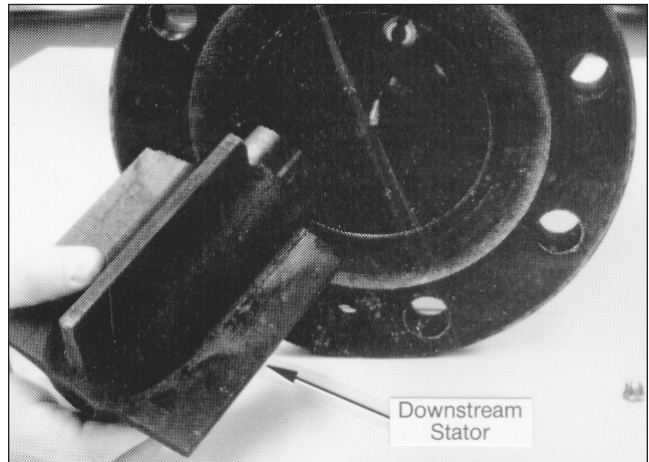

Figure 9
8. Remove downstream stator, Figure 9. In a unidirectional turbine meter, the stator is located by a Woodruff key. Care should be taken that the Woodruff key is not lost. In a bidirectional turbine meter, there is no Woodruff key; the two stators are located by two deflector rings.